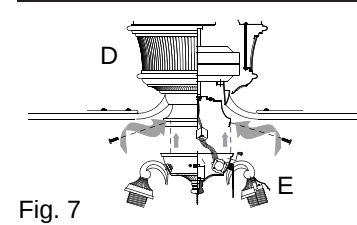

Fig. 7
7. Remove three screws from switch housing plate (F). Align holes in top of switch housing (E) with holes in switch housing plate (F) and attach switch housing (E) with three screws that were removed. Tighten all screws securely. [Fig. 7]